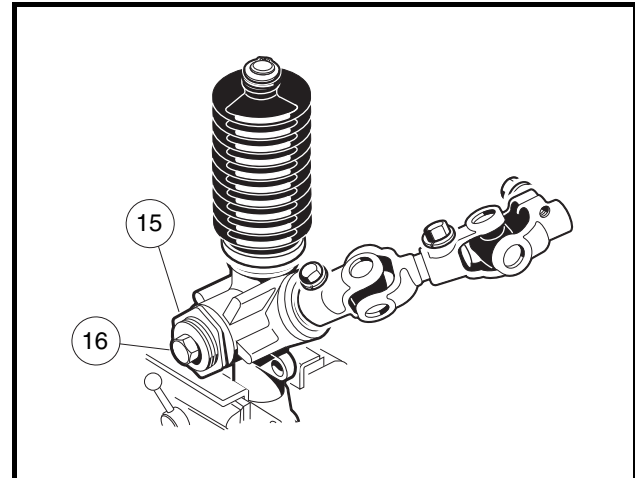

Figure 7-14 Rack and Pinion Adjustment
- 11.4. If measured resistance does not equal 7 to 15 in-lb, loosen the lock nut (15) and tighten the screw (16) until it bottoms out, then back the screw off one quarter turn. Tighten the lock nut to 28 ft-lb (38 N·m) (**Figure 7-14, Page 7-12**). **See following NOTE.**
NOTE: When tightening the lock nut (15) make sure the screw (16) does not change adjustment (**Figure 7-14, Page 7-12**).